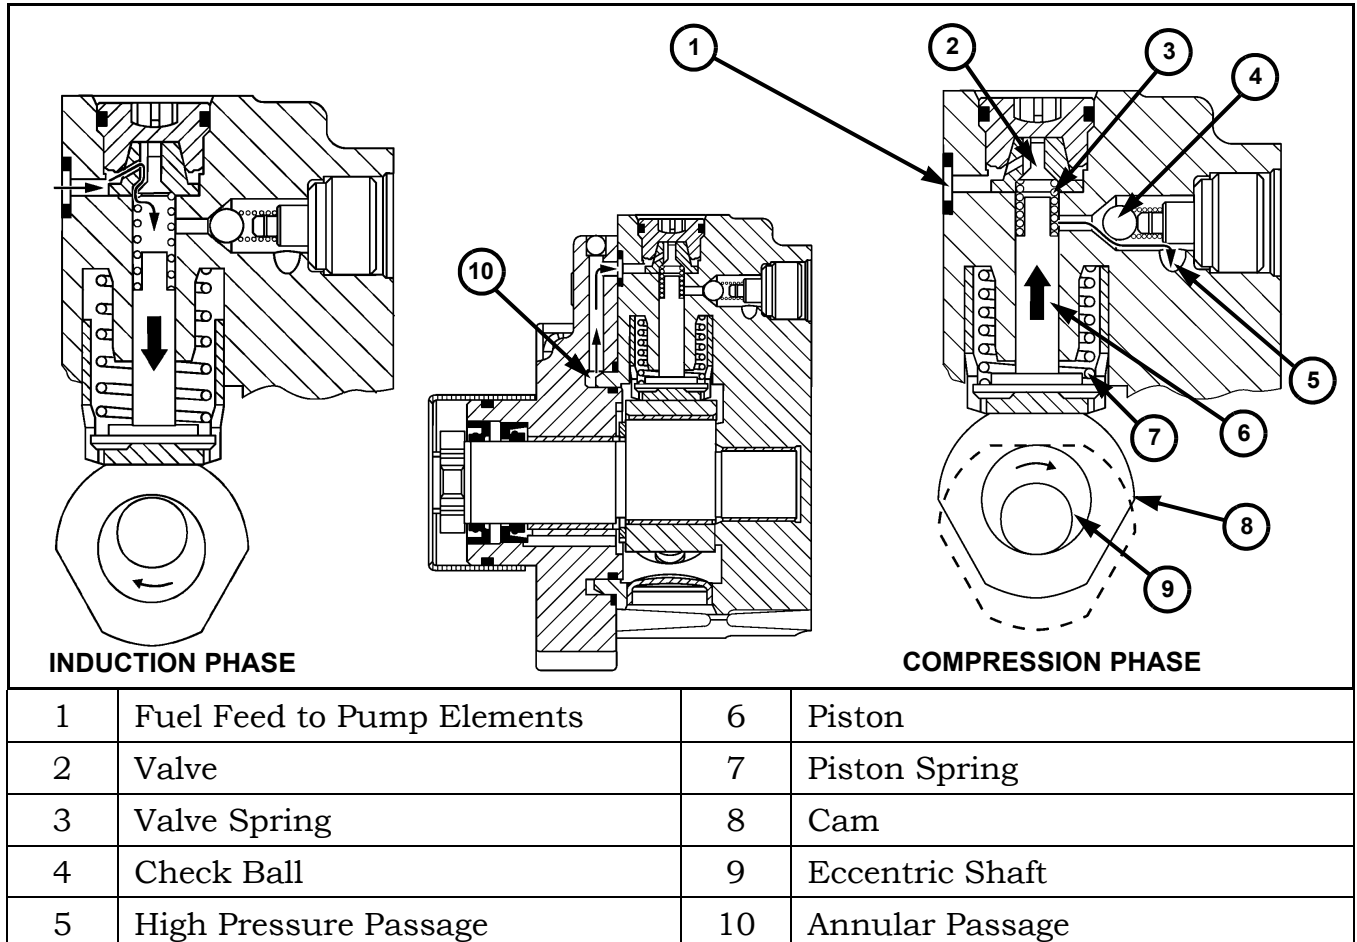

Figure 39 Fuel Pump, High Pressure Side
Refer to Figure 39. The cam (8) of the eccentric shaft (9) moves the pistons (6) up and down against the piston spring (7).